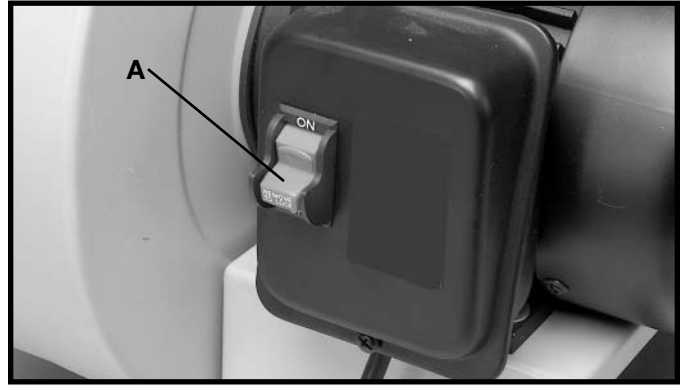

Fig. 24
The **ON/OFF** switch (A) Fig. 24, is located on the side of the motor. To turn the machine “ON” move the switch up to the “ON” position. To turn the machine “OFF” move the switch down to the “OFF” position..